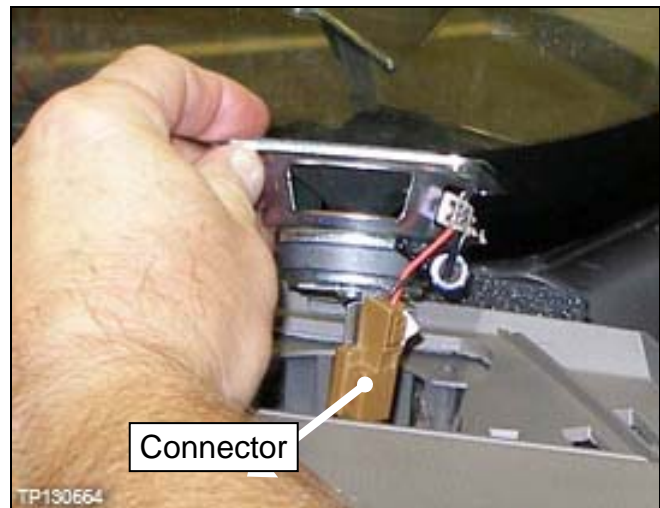

Figure 60
**NOTE:** The RH tweeter has one position for installation only, as shown in Figure 60.